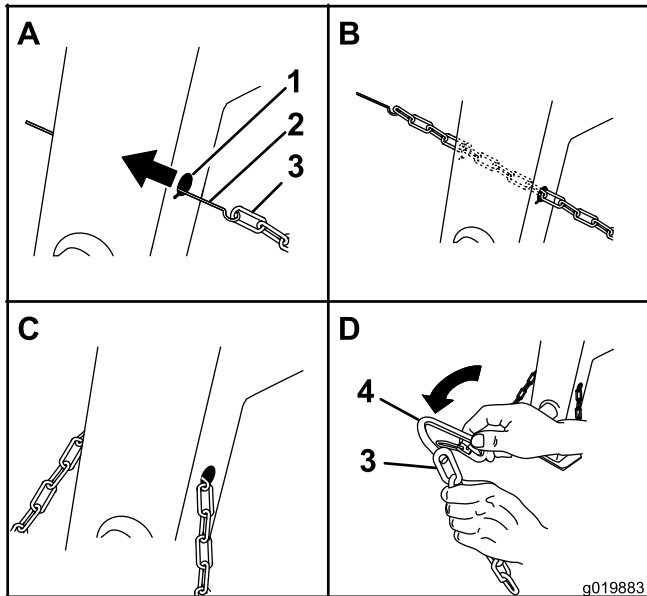
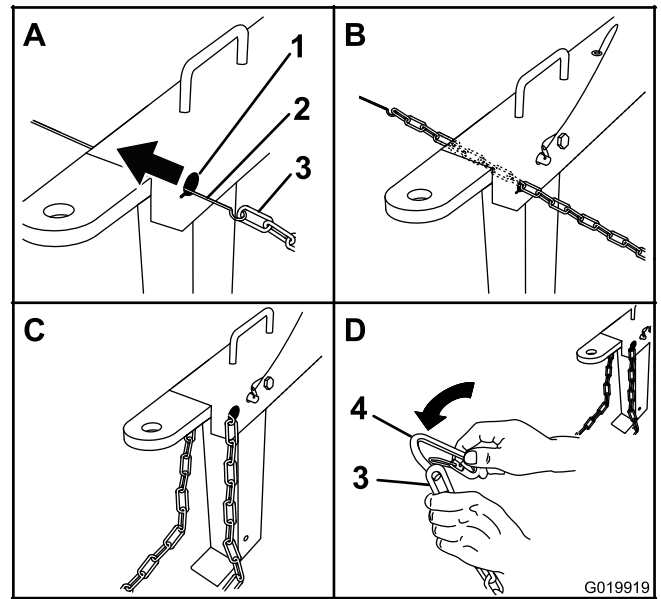

Figure 8
Figure 9
1. Form a hook on the end of a bendable piece of rod or stiff wire, (not included), and insert it through both keyholes in the front post of the machine (Figure 8 and Figure 9).
2. Attach the safety chain to the length of rod or wire (Figure 8 and Figure 9).
3. Pull the rod, or wire, and the safety chain through both keyholes (Figure 8 and Figure 9).
1. Align the connecting link to the last link in end of the safety chain (Figure 8 and Figure 9).
2. Insert the connecting link through the chain link until the connecting link snaps closed (Figure 8 and Figure 9).